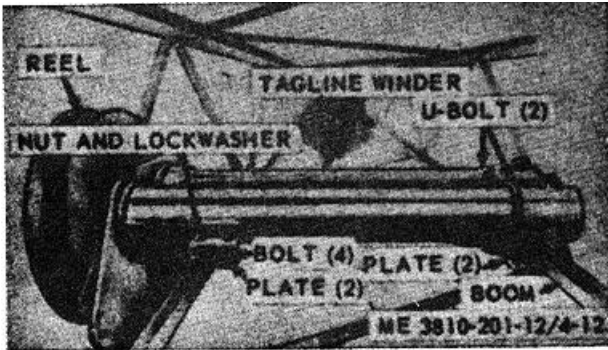

Figure 4-12. Tagline under, removal and installation.
(1) Disconnect tagline from clamshell bucket and remove line from reel (fig. 4-12), or wind on reel and secure loose end.
(2) Remove four nuts, lockwashers, bolts, and two plates securing left end of tagline winder to boom.
(3) Remove four nuts, lockwashers, two bolts, and two plates securing right end of winder to boom, then lift tagline winder from boom.